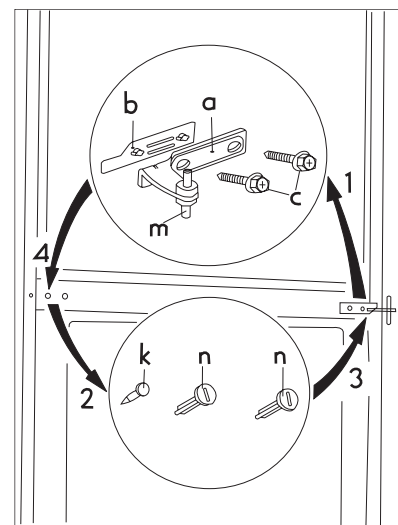

fig. 2.
- Open the doors and dismount the double door hinge (a, b) by removing the screws (2 pieces) (c). (fig.2)
- Take off the double door hinge (a, b, c) by gradually removing it from the cabinet, slightly tilting both doors. Do not forget to remove the plastic spacer (b) under the hinge. (fig.2)
- Remove the covering pins (3 pieces) (n, k) of the double door holder on the left side and put them to the other side. (fig.2)
- Fit the pin of the double door hinge (m) into the left hole of the freezer door. (fig.2)